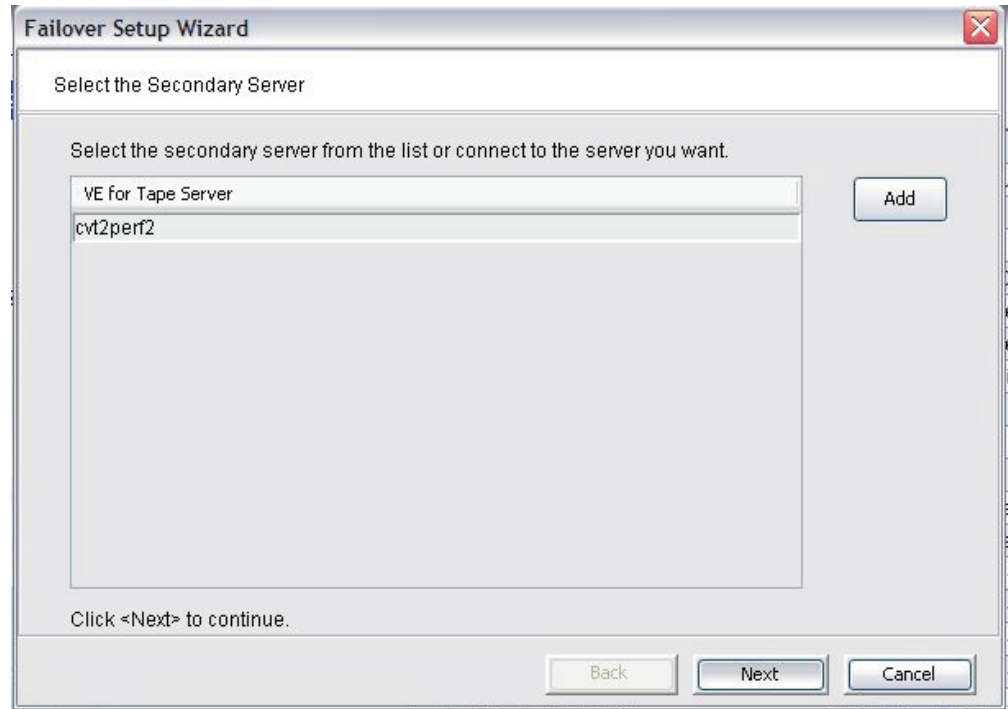

Figure 66. Select the Secondary Server window
10. ___ In the Select the Secondary Server window (see Figure 66):